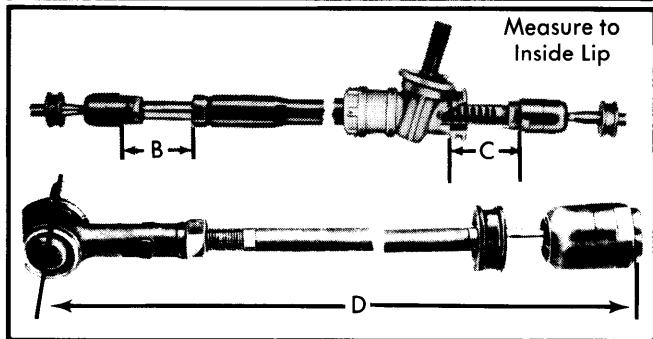

Fig. 2 Installation Adjustment of Tie Rods on Rack
3) Screw tie rods onto rack and adjust to specified dimensions without moving rack from center position. When adjustment is correct, secure tie rods with lock nuts and install rubber boots. See Fig. 2.